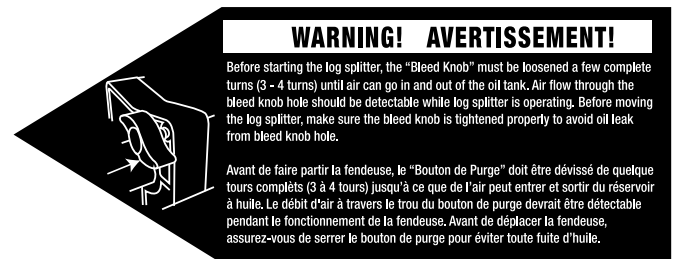

FIGURE 5
FAILURE TO LOOSEN THE BLEED KNOB WILL KEEP THE SEALED AIR IN HYDRAULIC SYSTEM BEING COMPRESSED AFTER BEING DECOMPRESSED. SUCH CONTINUOUS AIR COMPRESSION AND DECOMPRESSION WILL BLOW OUT THE SEALS OF THE HYDRAULIC SYSTEM AND CAUSE PERMANENT DAMAGE TO THE LOG SPLITTER. DO NOT ADJUST THE MAX PRESSURE LIMITING SCREW (A) Fig.5.